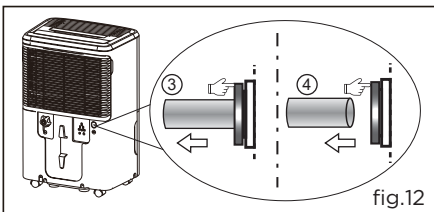

fig.12
- b. Keep pressing the grey ring while pulling out the plug. (fig.12);